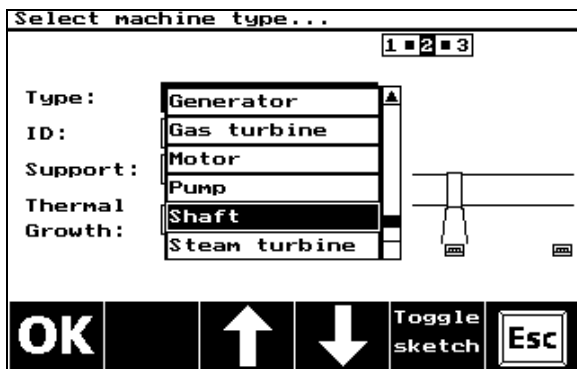
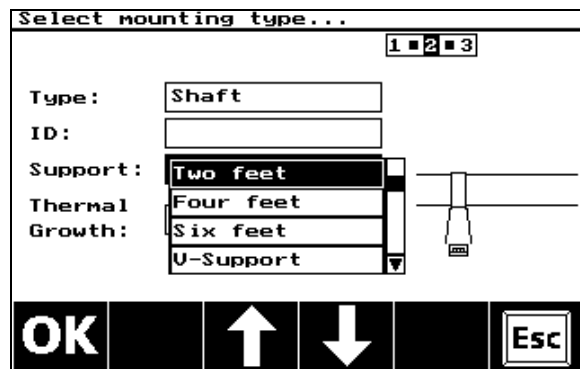

Figure A5
Figure A6
- 3) With “Type” highlighted, press  again, and proceed to edit the type by using the   keys until “Shaft” is selected. See Figure A5. Press . Now the “ID” parameter is highlighted. Use the  key to highlight “Support” and press . Use the  key to select “Two Feet” as the support option for your shaft. See Figure A6. (Unfortunately, a “no feet” option is not available, so we select “two feet” since this will minimize the number of dimension entries required later.) Press  twice to return to the Dimensions screen.